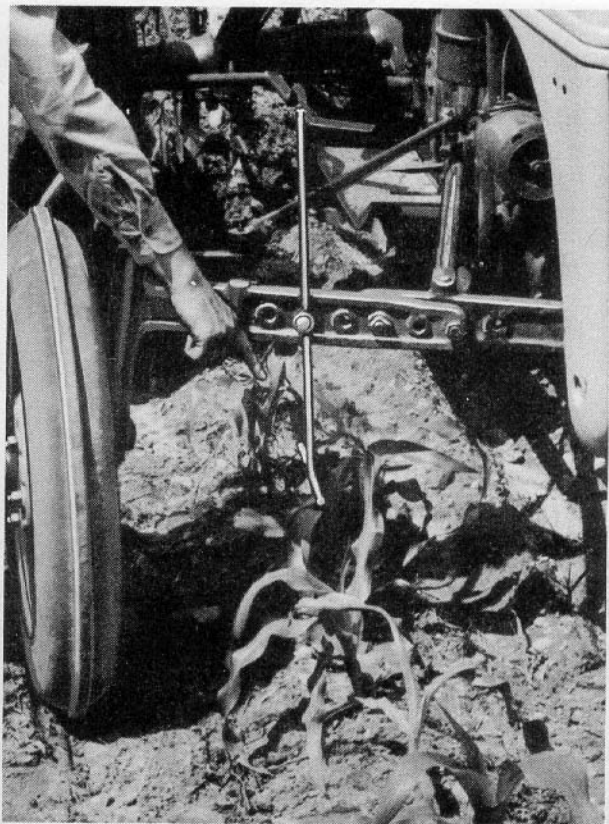

Figure 8
10. Attach the steering pointer to the right front axle as shown in Figure 8. Position it in the hole of the right front axle that will put the pointer over the row to be cultivated. See Figure 8.